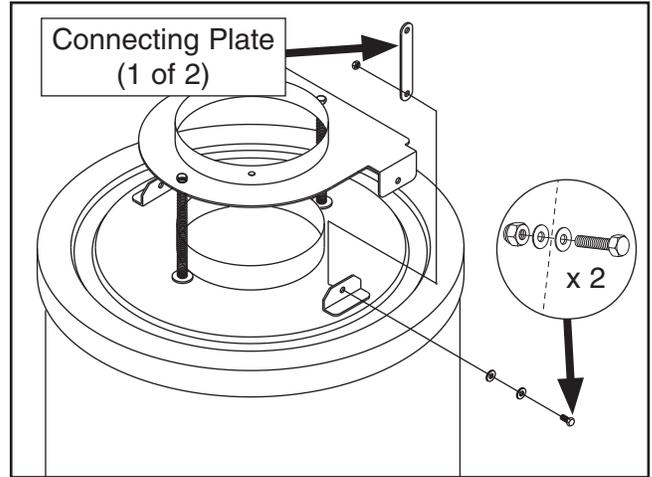

Figure 23. Installing drum lid connecting plates on drum lid.
- Install drum lid connecting plates with (2) $\frac{3}{8}$ "-16 x 1" hex bolts, (4) $\frac{3}{8}$ " flat washers, and (2) $\frac{3}{8}$ "-16 lock nuts (see **Figure 23**).